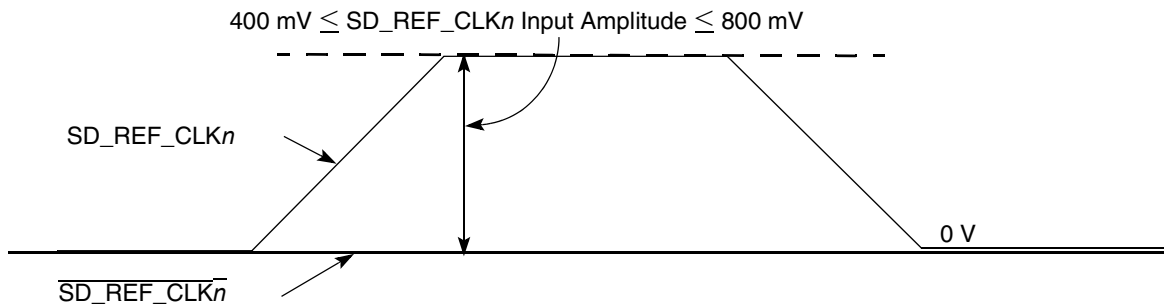

Figure 40. Single-Ended Reference Clock Input DC Requirements
- The SD_REF_CLKn input average voltage must be between 200 and 400 mV. Figure 40 shows the SerDes reference clock input requirement for single-ended signaling mode.